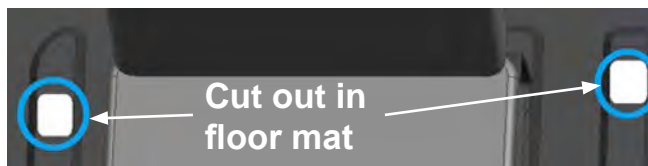

Figure 15-2
2. Cut out the mat so that no part of the mat is between the seat belt buckle mounting bracket and the sheet metal floor (see Figure 15-2).